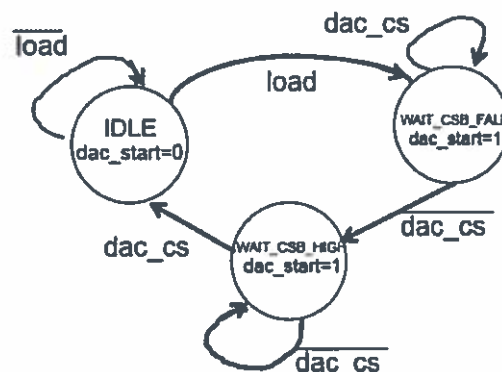

Figure 3.2
b) *Figure 3.2* shows the state diagram of the “load detector” FSM circuit. Specify in Verilog HDL the code segment that implements this FSM.